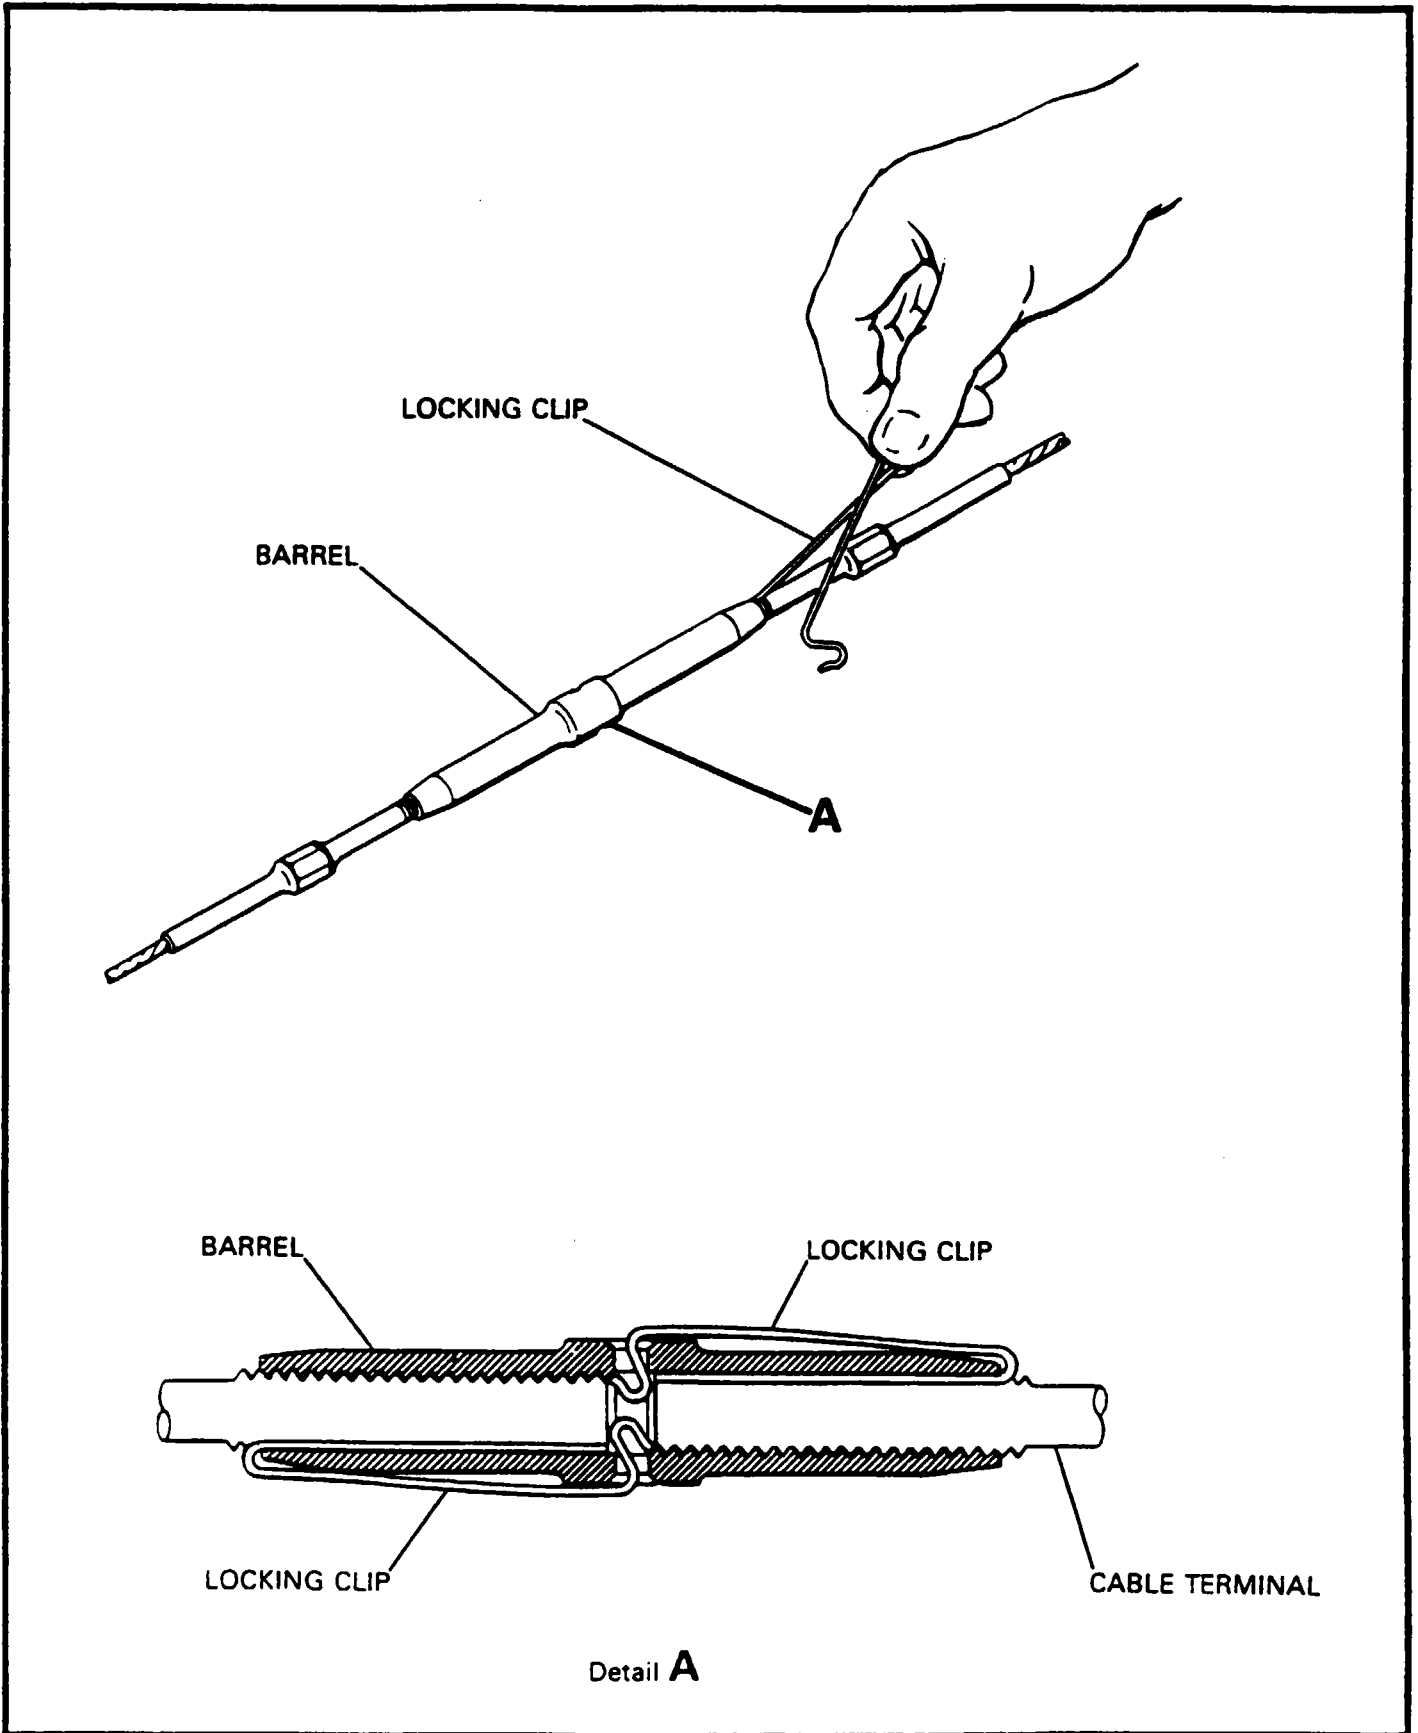

Figure 1-6. Safetying Turnbuckle Assemblies
a. Safetying Turnbuckles. (See Figure 1-6.)
2. After turnbuckle has been adjusted to its locking position, with slot indicator groove on terminals and slot indicator notch on body aligned, insert end of locking clip into terminal and body (refer to Figure 1-6) until U-curved end of locking clip is over hole in center of body.